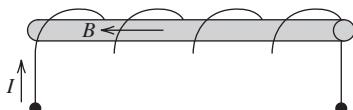

FIGURE P12.25 Magnetic circuit.
- 12.25 (B)** A coil with 300 turns shown in Figure P12.25 has a flux of 3.2×10^{-4} Wb when $i = 0.5$ A. Compute the inductance of this coil.